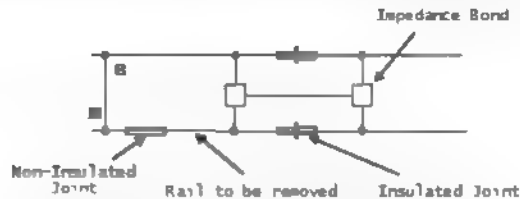

Figure 4 - BONDING
- 1.605** Method of applying temporary rail jumpers in electrified territory when rail, to which impedance bond is connected, is to be removed from track. (See Figure 4)